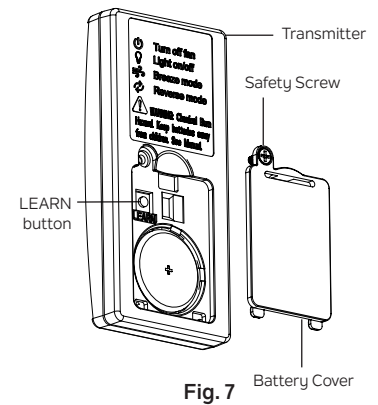

Fig. 7
Step 1. Loosen the safety screw and remove the battery cover from the back of the transmitter. (Fig. 7)
Step 3. Set the existing **OFF/ON** wall switch for the fan to the "**ON**" position, then press the **LEARN** button on the back of the transmitter. (Fig. 7) The fan will change to medium speed and the light kit (if applicable) will toggle (if the light kit was previously on, it will switch to off. If the light kit was previously off, it will switch to on). This confirms that the pairing process is complete.
NOTE: To access the **LEARN** button on the back of the transmitter, loosen the safety screw and remove the battery cover from the back of the transmitter. (Fig. 7) Once deprogramming is successful, reinstall the battery cover to the back of the transmitter and tighten the safety screw.